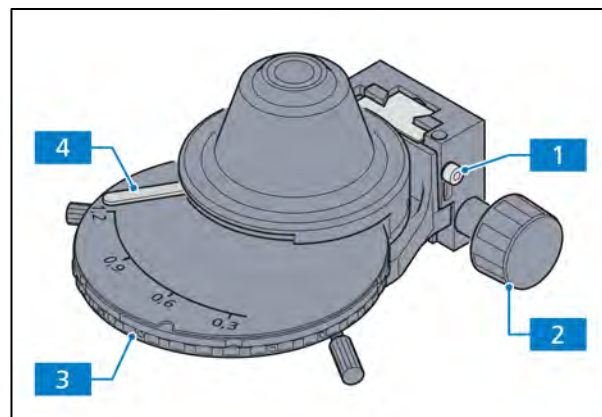

Fig. 4-4 Adjusting the height stop on the condenser carrier
- If condensers with a swiveling front lens are used, swivel these into the beam path with $\geq 10\times$ objectives and turn the knurled knob for vertical adjustment of the condenser (Fig. 4-3/3 and Fig. 4-4/2) to the top stop. Make sure the stop is adjusted to prevent the condenser from lifting out the sample (adjusting the condenser stop, section 4.2.1 (4)).
- On condensers with revolver/modulator disks: turn the knurled ring (Fig. 4-4/3) to position **H** (or **BF** = brightfield).
- To adjust the aperture (contrast), take an eyepiece from the tube barrel. Looking through the barrel adjust the aperture with the adjusting lever (Fig. 4-4/4) of the aperture diaphragm to the size of approx. $2/3$ - $4/5$ of the diameter of the objective exit pupil (Fig. 4-3/E). In most cases this aperture gives the best contrast at almost full resolution and is thus the best compromise for the human eye.
(4) Adjusting the height stop on the condenser carrier
- Loosen the setscrew (Fig. 4-4/1) on the height stop with the Allen wrench (AF 3).
- Close the field diaphragm and adjust the condenser vertically (Fig. 4-4/2) until you get a sharp image.
- Tighten the setscrew (Fig. 4-4/1) on the height stop.